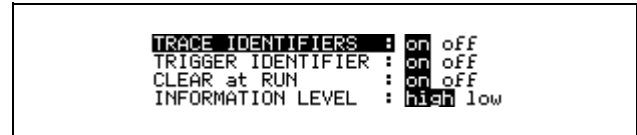

Figure 6-13. Startup Menu Window
1. From the User Options menu, press (MORE OPTIONS), and open the STARTUP MENU window (see Figure 6-13).